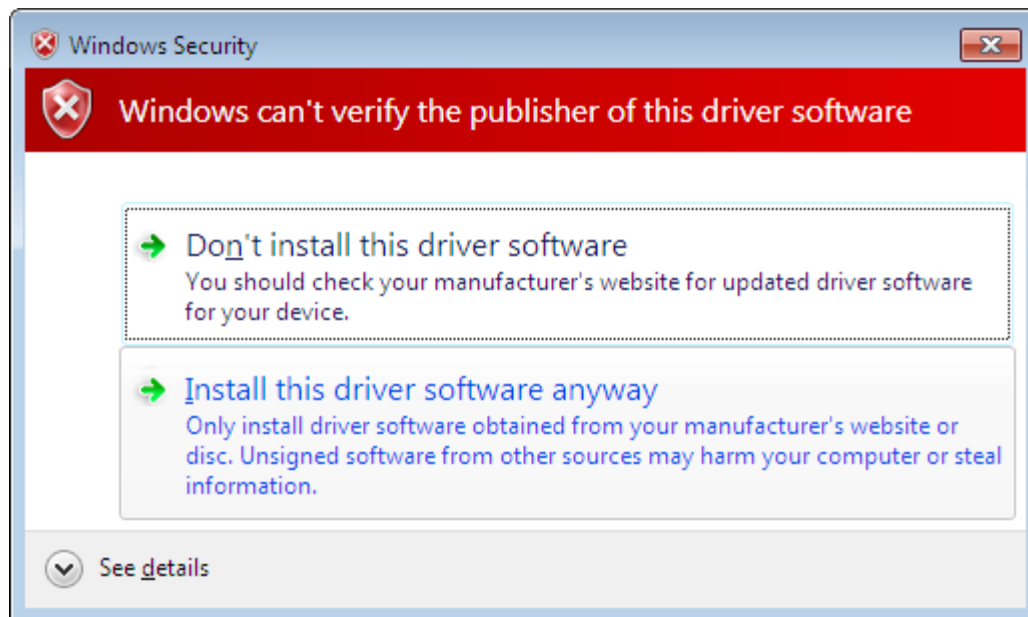

Figure 2: Diamond Systems JNMM-4LP-XT Driver Setup
- Click on “Install this driver software anyway” (shown in Figure 2) to proceed the installation process.